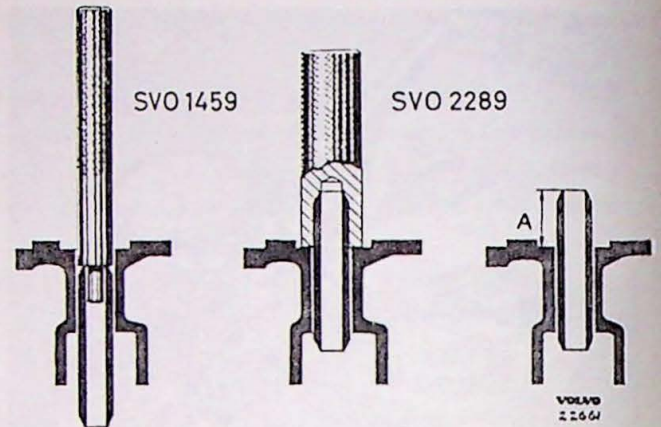

Fig. 1-36. Replacing valve guides
2. Press in the new guides by using tool SVO 2289, which presses them into the correct depth. See Fig. 1-36.